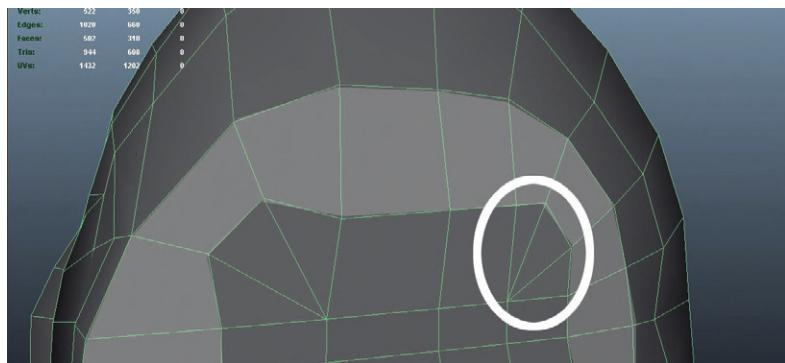

FIG. 4.47 Creating a more circular band of polygons to extrude the neck out of.
Step 65: Repeat the process for the back corner shown in Fig. 4.47.
The benefits of these processes may be a little opaque right now. But look at Fig. 4.47 and see the band of polygons that these steps have created? The band is far more circular than we had earlier that will allow the neck to be built from a much more appropriate shape.